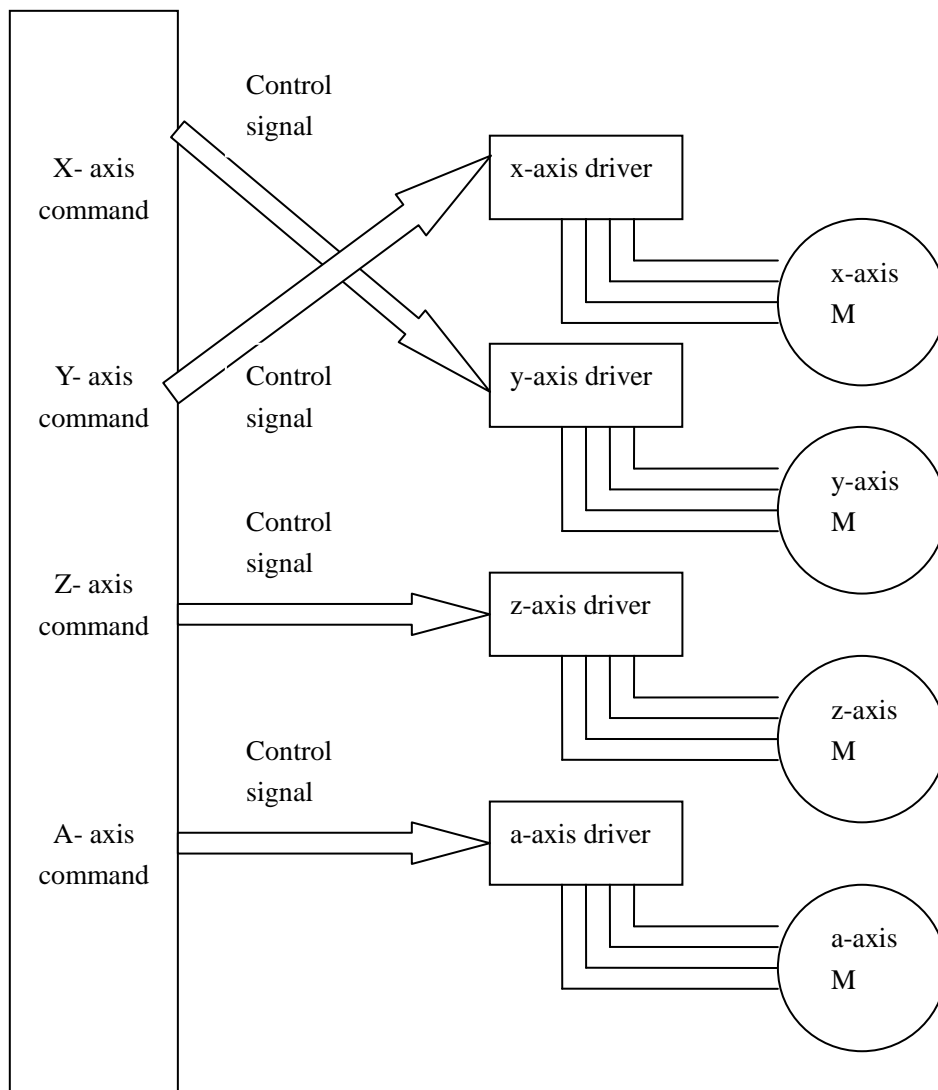

Figure 7-5
2. do as Figure 7-5 to check the cable of control signal.	2 .if the cable is broken, replace it